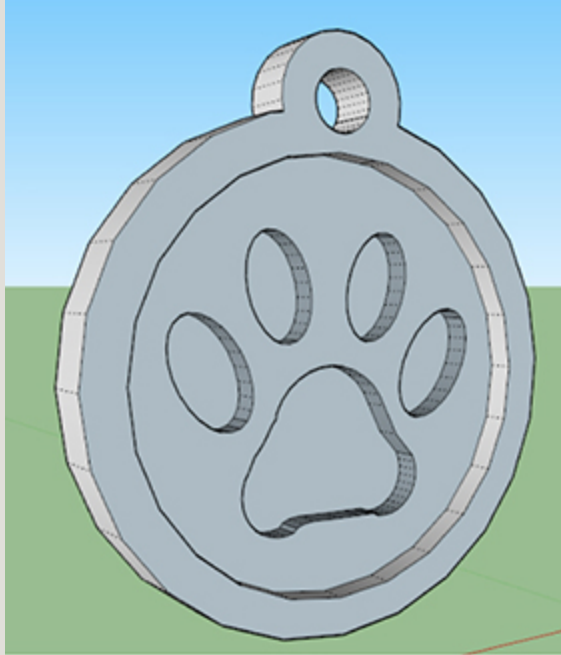

Figure 3-71 The back of the tag has holes left from the push/pull operation.
11. Close the backside. Orbiting behind the tag, you can see the pad holes (Figure 3-71). Fill them in by tracing over one line on each pad with the Pencil (Figure 3-72). Don't erase the oval outlines that are left because that will mess up the front. Then trace over one line on the tag's body to close it (Figure 3-73). The resulting circle can be erased because it won't affect anything. Always erase unneeded lines to keep the model clean. This helps make a file 3D-printable.